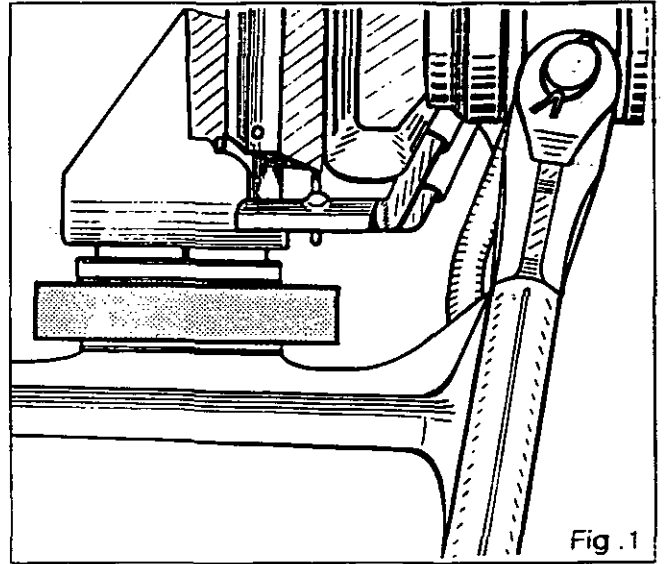

Fig. 1
**Note:** Place a block between the cab and the trumpets (Fig. 1).